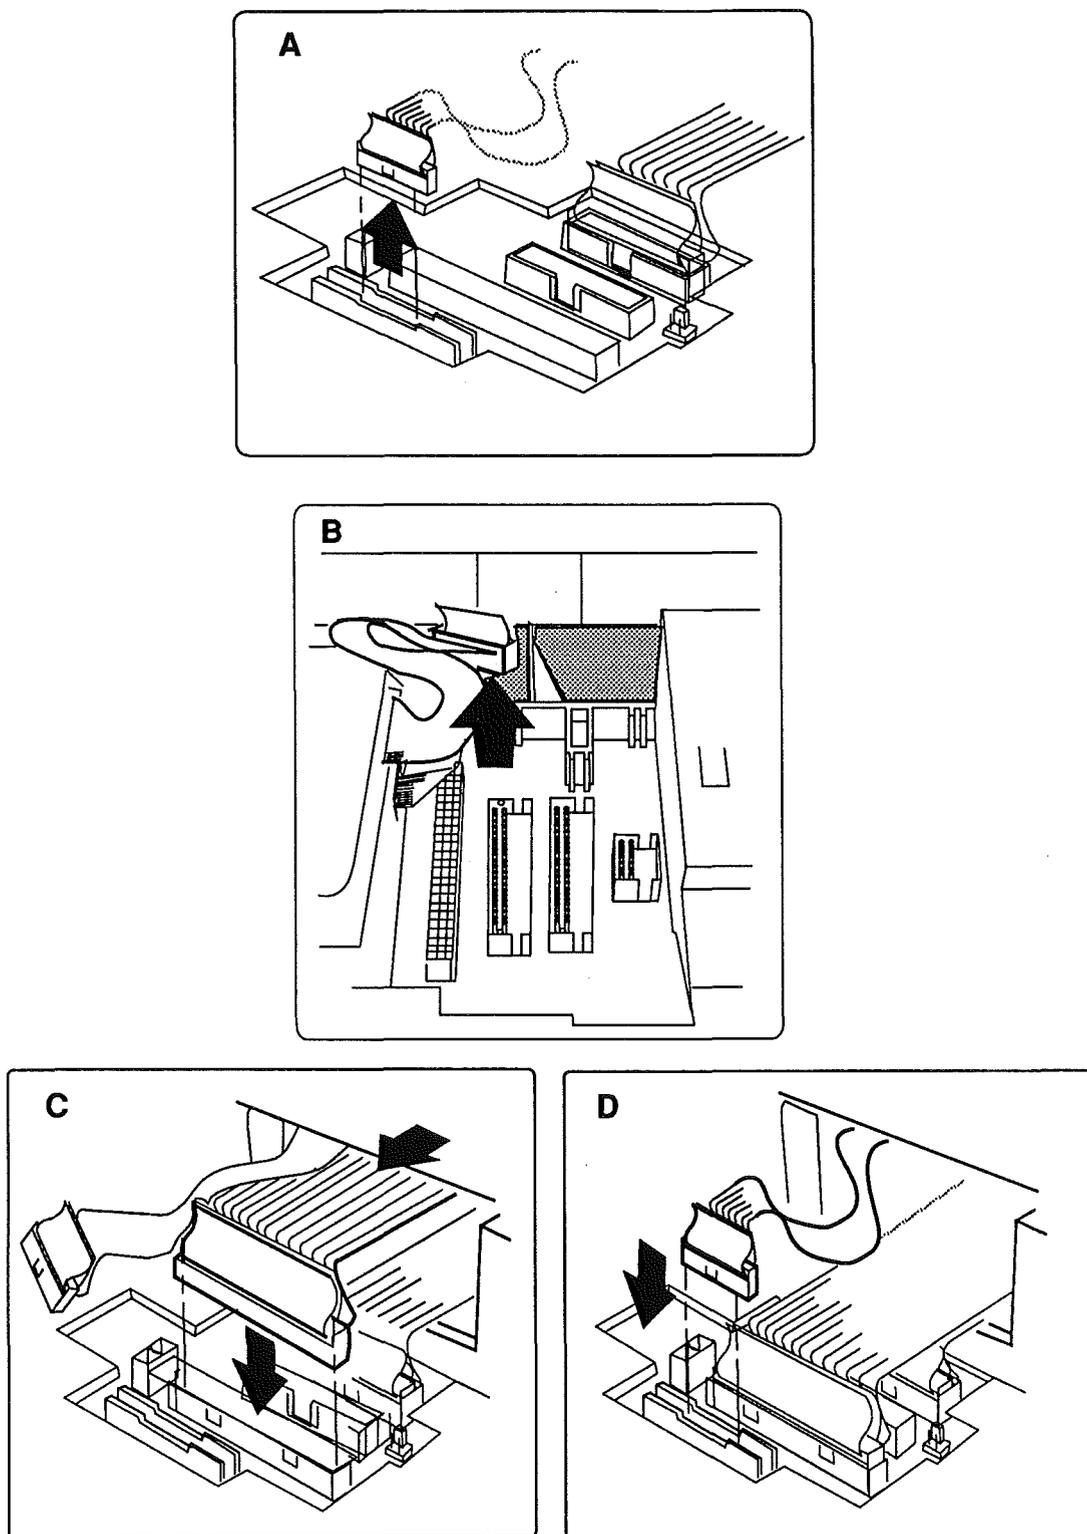

FIGURE 2
6. **Figure 2-A.** Disconnect the display cable from logic board connector J19.
7. **Figure 2-B.** Slide the hard drive cable through the opening under the display assembly.
8. **Figure 2-C.** Connect the hard drive cable to logic board connector J18.
9. **Figure 2-D.** Connect the display cable to logic board connector J19.